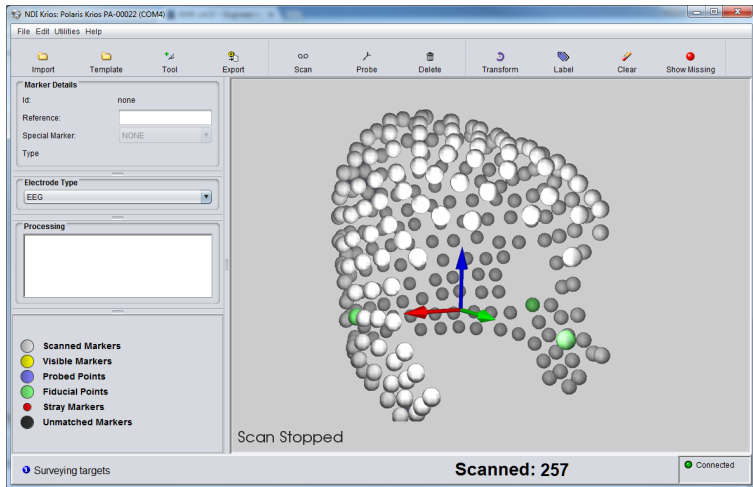

Figure 3-8 Transform - Complete
2. Once the Nasion, Left Preauricular Point and Right Preauricular Point have all be defined, select the **Transform** button on the toolbar to transfer the point cloud coordinates from the Krios coordinate system to the standard head coordinate system. (See Figure 3-8 for an example of a completed Transform.)